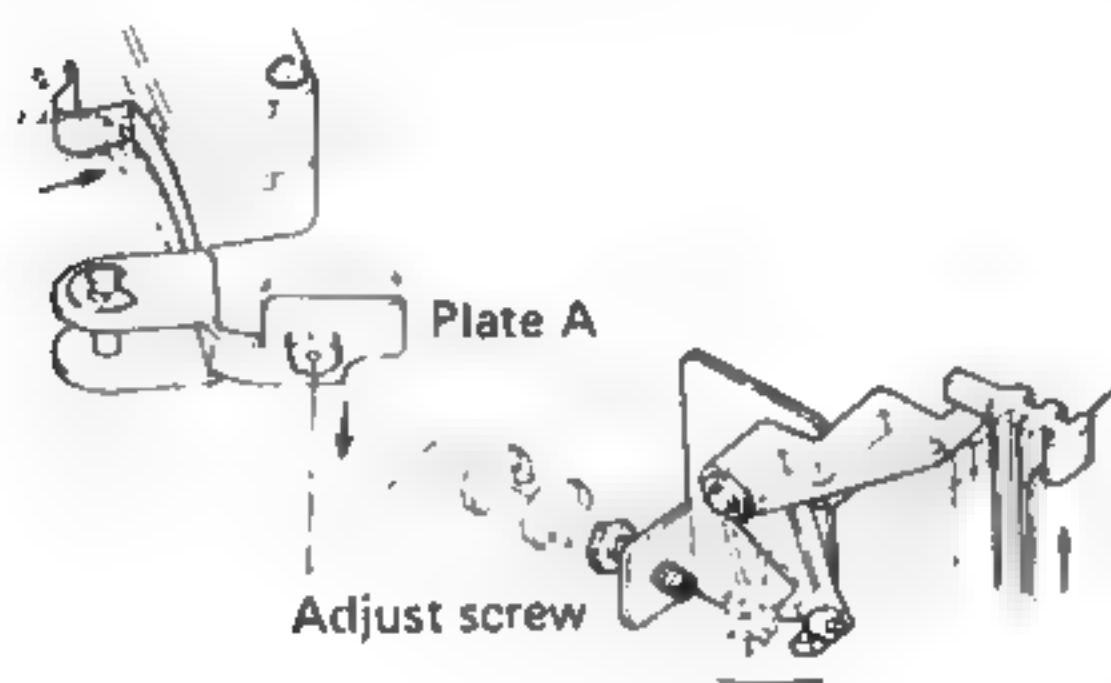

Fig. 25
2. When REPEAT button is pressed, turn adjusting screw so that plate A locks the microswitch in the ON position (Fig. 25).